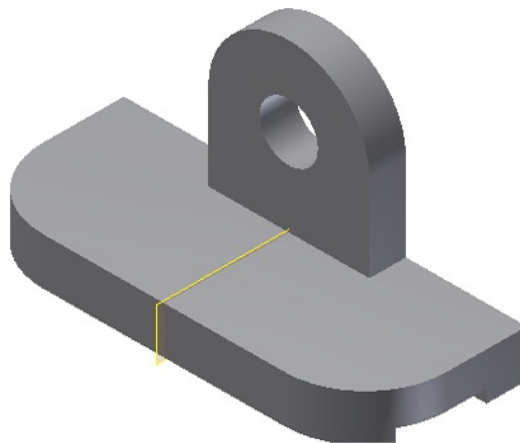

Figure 6-158 Model after creating the join feature
2. Exit the Sketching environment and adjust the view of the model using the ViewCube. Next, extrude the sketch to a distance of 10 mm toward the front of the base feature, as shown in Figure 6-158.
While selecting profiles for extrusion, make sure that you select a point inside the loop sketch but outside the circle. As a result, the new sketch is extruded along the circle, thus creating a hole. The model after creating the second feature is shown in Figure 6-158.
As evident from the Figure 6-158, the fillets need to be created on the side surfaces of the second feature with respect to the first feature. In this tutorial, you will create only one fillet feature and then mirror it to the other side of the feature by using the **Mirror** tool.